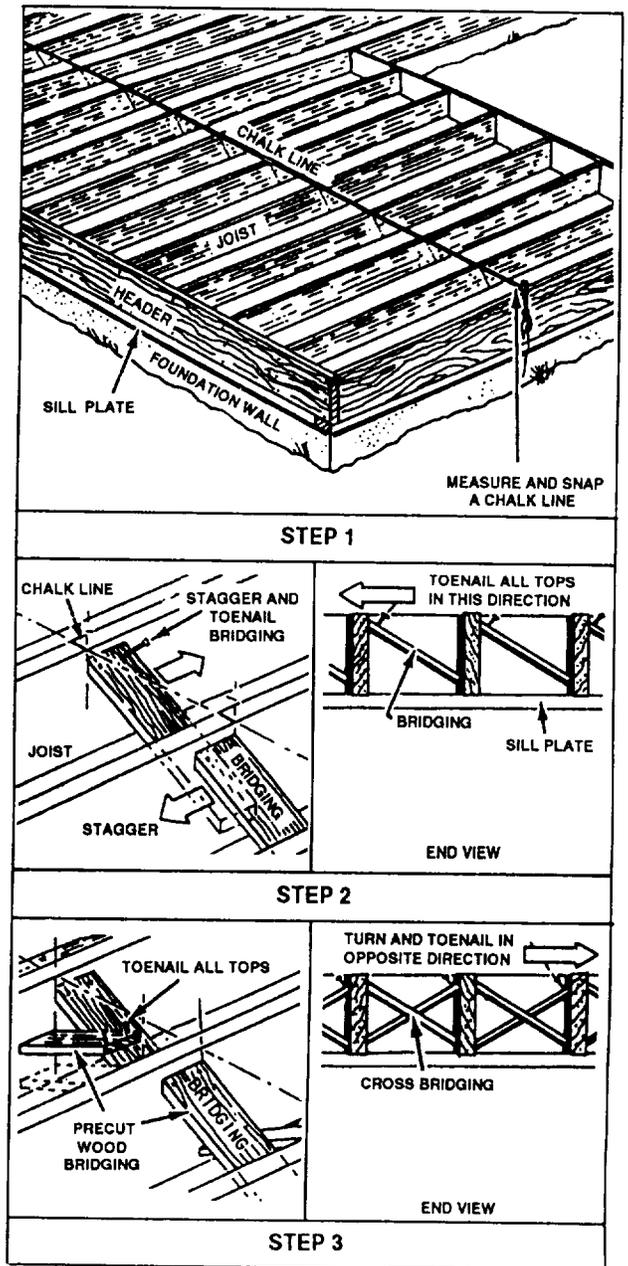

Figure 1-26.—Wood cross bridging.
**CROSS BRIDGING.**— Also known as herringbone bridging, cross bridging usually consists of 1- by 3-inch or 2- by 3-inch wood. It is installed as shown in figure 1-26. Cross bridging is toenailed at each
An efficient method for initial placement of cross bridging is shown in figure 1-26. In step 1, snap a chalk line where the bridging is to be nailed between the joists. In step 2, moving in one direction, stagger and nail the